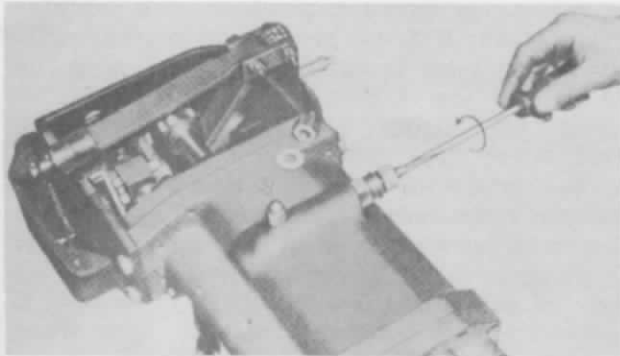

Figure 16 - Safety By-Pass Valve Adjustment
b. It is sometimes necessary to adjust the safety valve due to the spring tension becoming gradually weaker. Adjustment may be indicated if there seems to be no oil pressure and the REFUSE-GETTER will not operate. Also, if some parts of the machine operate but others do not, a distinct buzzing sound can sometimes be heard which is the safety valve opening and allowing the pressure to escape back into the tank. Adjustment is made as follows: Remove nut (94) which covers adjusting screw. Then loosen lock nut (95). With a screw driver, turn adjusting screw to right only one-half turn, as illustrated in figure 16. This increases oil pressure approximately 50 pounds. Then tighten lock nut while holding adjusting screw in position with screw driver so as not to disturb